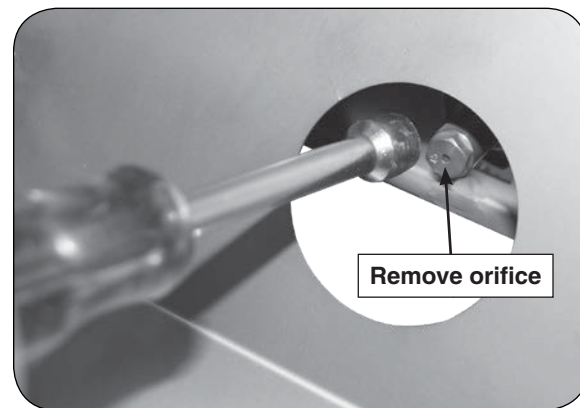

Fig. 29-2 Remove orifice to convert/check
4. Using a 3/8" socket, remove the orifice from the orifice holder (see Fig. 29-2 and Fig. 29-3) and check the number stamped on the face.